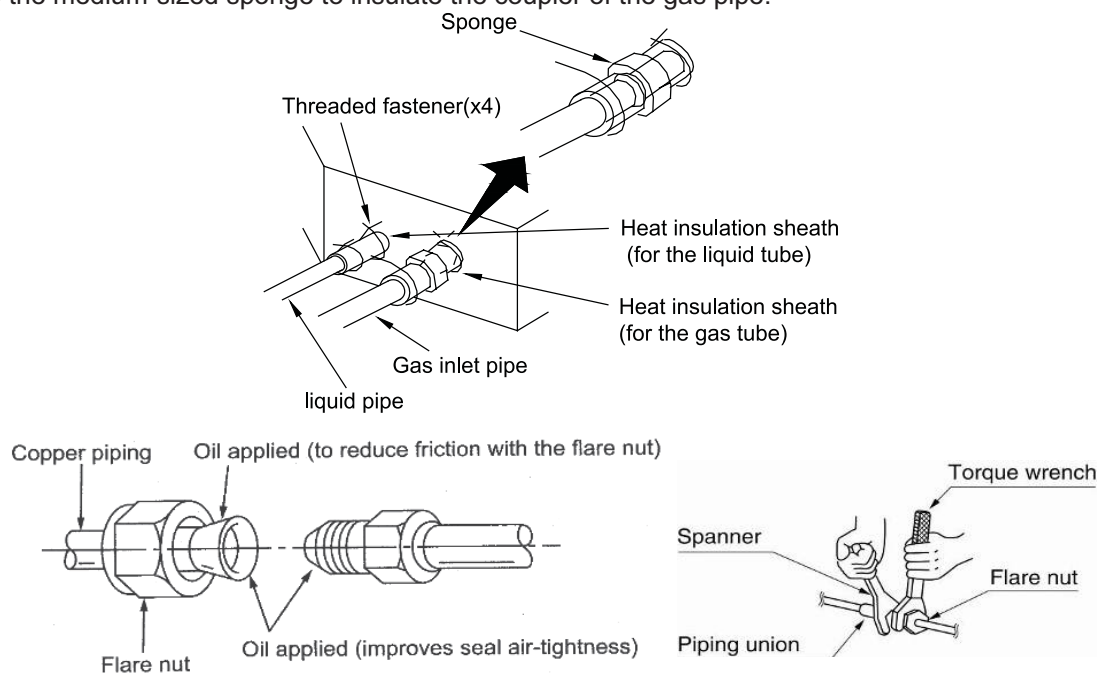

Figure 3-2-6
When connecting the pipe to the unit or removing it from the unit, please do use both the spanner and the torque wrench.(Figure 3-2-6)
Examine the connection pipe to see if it leaks, then take the treatment of heat insulation, as shown in the Figure 3-2-6.
(1). For solid core wiring (Figure 3-2-6)
(2). For strand wiring (Figure 3-2-6)